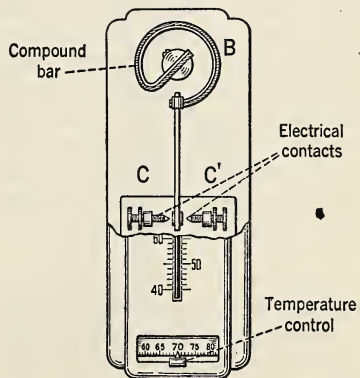

FIG. 314. A thermostat is designed to keep the temperature constant.
2. *The thermostat.* To keep a room at a nearly constant temperature, a *thermostat* (temperature stationary) is often used. From Fig. 314 we see that it operates by means of a compound bar much as the metallic thermometer does. One end of the bar is fixed. The other end is fastened to a pointer which moves back and forth between the points *C* and *C'*. If the room grows too warm, the pointer makes an electrical contact at *C*, and the drafts of the furnace are automatically closed. They are opened again when the room cools down enough for the pointer to make another electrical contact at *C'*. In this way, the temperature of a room may be kept at 68° F., for example, within a variation of one or two degrees.